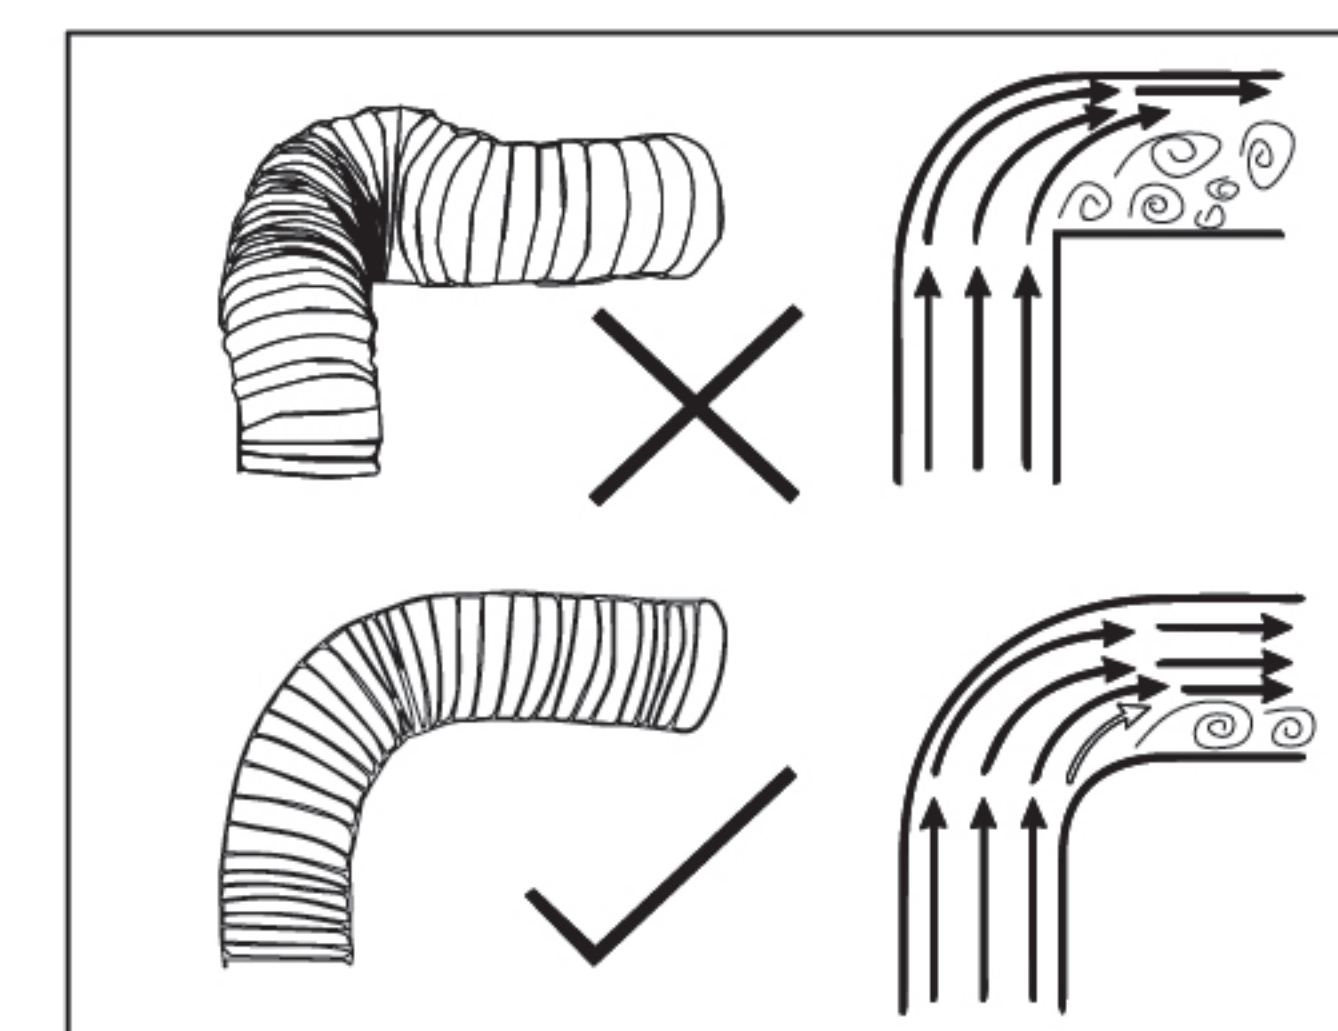

fig10
5. Arrange the exhaust duct: the aluminum foil exhaust duct and the reserved smoke tube or wall hole shall be sealed tightly to prevent smoke leakage, the smoke tube shall be free from extrusion, deformation and small-angle elbow, the number of elbows shall not exceed 2, and the smoke tube shall be straightened and fixed. (fig10)